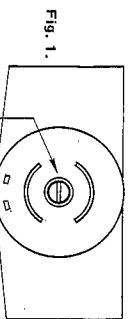

Fig. 1.
**Non-Adjustable Thermostat**—This type of thermostat has been factory pre-set for use on LP gas and has no pilot adjustment screws. See Fig. 1.